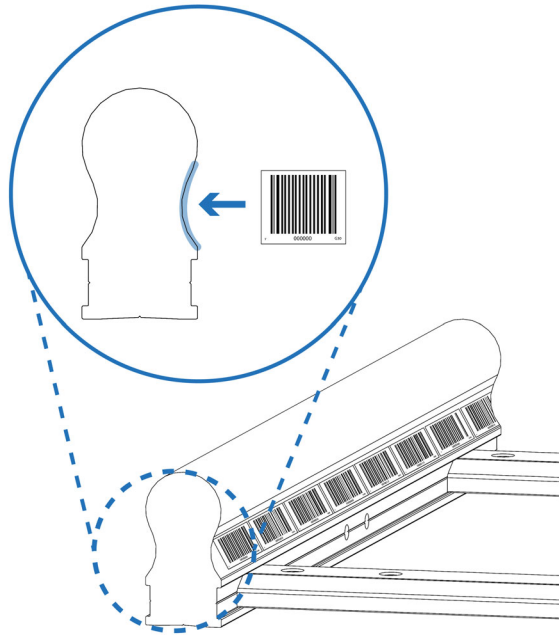

Figure 25 - Barcode Tape Location on Rail
2. Begin applying the barcode tape as close as possible to the wiredraw housing, positioning it in the concave section of the lower rail. Refer to **Figure 25**.